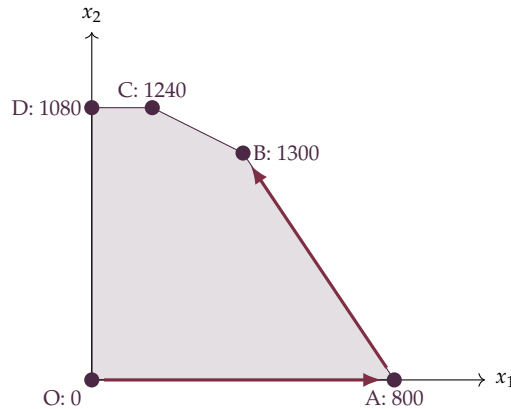

Figure 11: Walking from corner to corner: $O \rightarrow A \rightarrow B$; at B no neighbour is better.
Walking from corner to corner. Instead of computing all the corners, we can walk along the edges (Figure 11). Start at a corner, for example O ($z = 0$). Move to a *neighbouring* corner (joined by an edge) with a better value: A (800), then B (1300). At B, the two neighbours A (800) and C (1240) are worse, so we stop. Why is it correct to stop? Along each of the two edges that leave B, the value goes down (Section 4.2). Every other feasible plan is seen from B in a direction that lies between these two edges, that is, a combination with positive numbers of the two edge directions (the feasible set is convex). Since the value goes down along both edges, it also goes down in such a direction. So no feasible plan is better than B. Another path, $O \rightarrow D (1080) \rightarrow C (1240) \rightarrow B$, also works. This walk is the idea of the simplex method (Lecture 3).